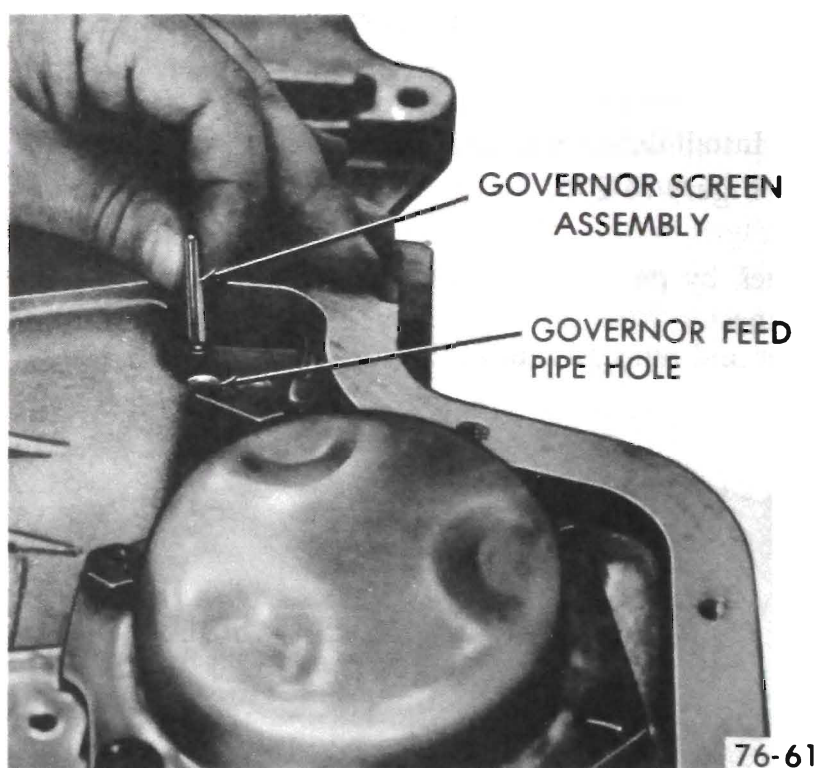

Figure 76-275
3. Install governor screen assembly, *open end first*, into governor feed pipe hole in case (hole nearest the center of transmission). See Figure 76-275.